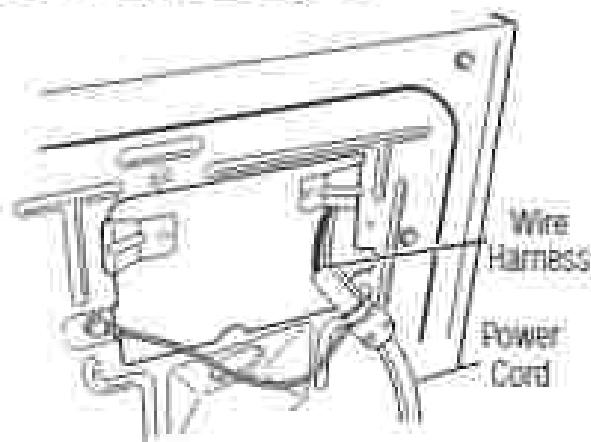
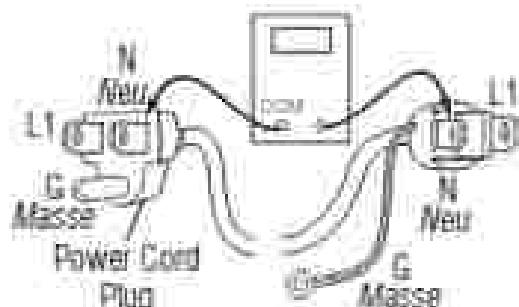

Figure 4 • Power cord-to-wire harness connection for gas dryer.
Figure 5 • Power cord terminals; gas dryer.
2. Remove the cover plate from the top right corner of the back of the dryer. See figure 4, page 2-10.
3. Check that the power cord is firmly connected to the dryer's wire harness. See Figure 4.
5. With an ohmmeter, check for continuity between the neutral (N) terminal of the plug and JS-3 (white wire) on the ACU. The left-hand side of figure 5 shows the position of the neutral terminal (N) on the power cord plug. Also see figure 1, page 3-4.
- If there is no continuity, disconnect the white wire of the main harness from the power cord at the location illustrated in figure 4. Test the continuity of the power cord neutral wire as illustrated in figure 5. If an open circuit is found, replace the power cord. Otherwise, go to step 6.
- If there is no continuity, check the continuity of the power cord in a similar way to that illustrated in figure 5, but for power cord's L1 wire.